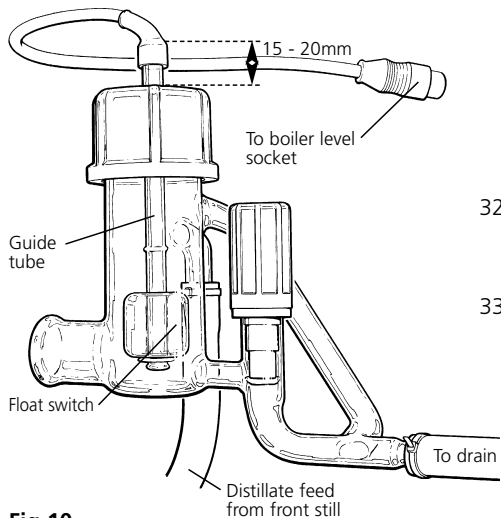

Fig 10 WL48 Level Control
- The float switch on the second stage boiler level control W4L2A is set at the factory. However, check that this has not been disturbed during transit. A rough check is that the distance from the top of the large screw cap of the W4L2A to the top of the glass guide tube should be approximately 15-20mm see fig. 10.
- 9 Allow the rear boiler to fill with single distilled water (for approx. 20 to 30 minutes), keeping an eye on the level. Note that the heater of the second stage only comes on when the level of single distilled water in the rear boiler is at about the equator. It may be necessary to adjust the level of the float switch of the WL42A to achieve this condition. Refer to fig. 10.